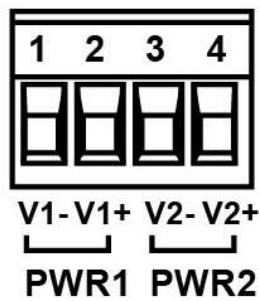

Figure 2.4: Power Terminal Block
Step 1. Insert the positive and negative wires into the PWR1 (V1+, V1-) and PWR2 (V2+, V2-) contacts on the terminal block connector as shown below in Figure 2.4.